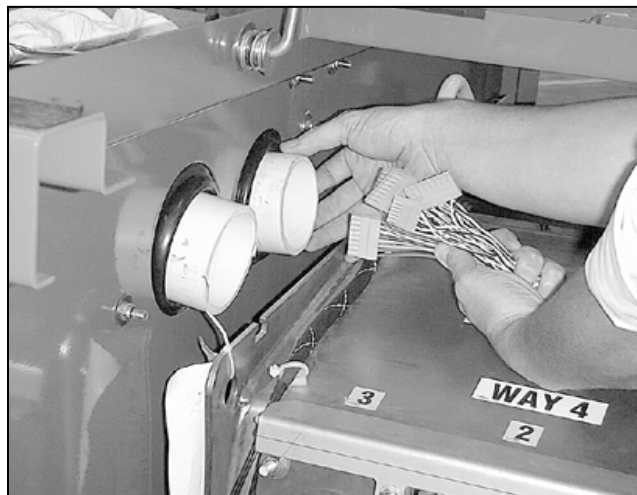
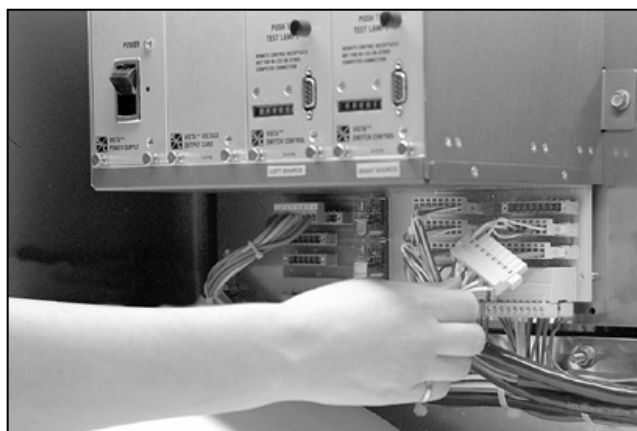
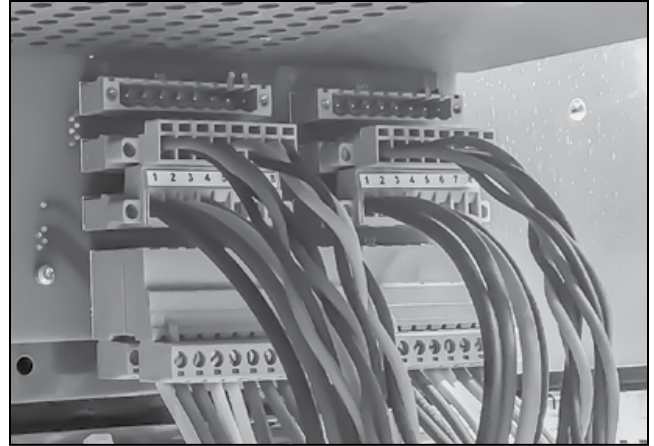

Figure 29. The cables being inserted through the PVC pipes.
Figure 30. The connectors being attached to the Vista switchgear rack backplane board.
Figure 31. A close-up of the Vista switchgear rack back-plane board connectors.
- (d) If applicable, route the VS-G1 and VS-G2 wires into the low-voltage compartment through the PVC pipe. See Figure 29. Then, route the larger main cables through the PVC pipe: attach connectors to the Vista switchgear rack backplane board using the drawings provided. See Figure 30 and Figure 31 on page 23.